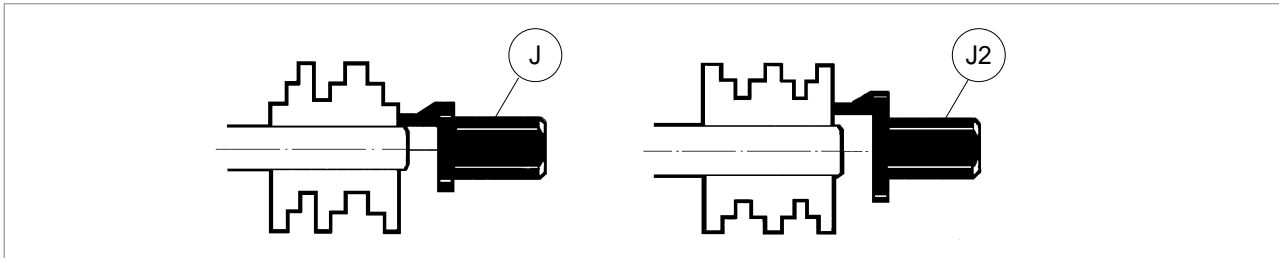

Fig. 11
The TECHNICA EU key-cutting machine is provided with two pairs of key stops: one pair (J) (fig. 11) is already fitted to the clamps, the other pair (J2) is with the accessories in the tool box.